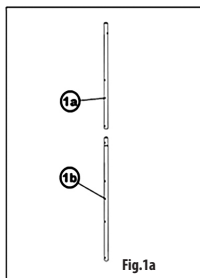
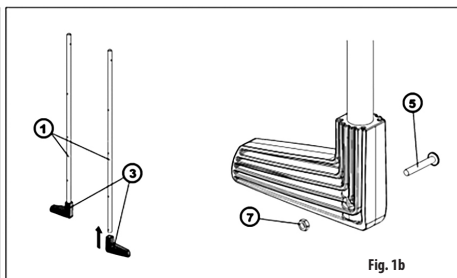

Fig. 1a
Fig. 1b
Put the lower elbows (3) on the correct ends (according to the holes) of stile tubes (1). Secure them in place using appropriate screws (5) and nuts (7) (Fig. 1b). For the divided ladder intended for the pools of 1.20 m depth pair the upper part (1a) and the lower part (1b) of stiles, (Fig. 1a).